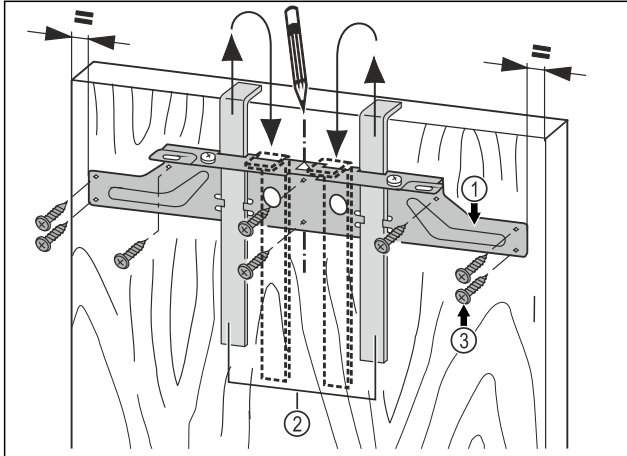

Fig. 45
- ▶ Hang the fastening bar Fig. 45 (1) with the mounting aids on the inside of the unit door Fig. 45 (2).
- ▶ Align the fastening bar Fig. 45 (1) in the centre of the door.
- ▶ Tighten the mounting bar Fig. 45 (1) with at least 6 screws Fig. 45 (3).
- ▶ Screw the mounting bar Fig. 45 (1) to the edge with 4 screws Fig. 45 (3).
- ▶ Pull the assembly devices Fig. 45 (2) upwards and push them, at an angle, into the receiving openings.